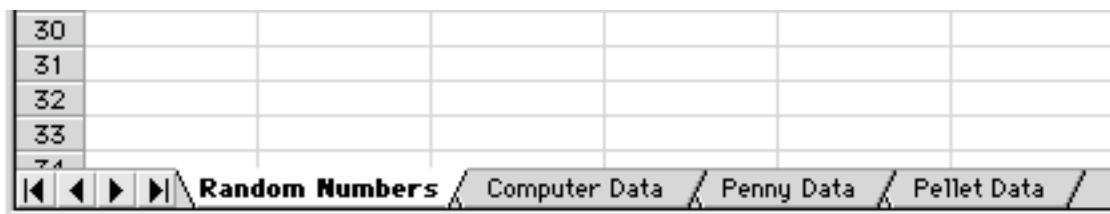

Figure 6
- After you have looked at the histogram, return to the worksheet titled "Random Numbers," by selecting the Tab at the lower left hand side of the workbook, as seen in Figure 6.